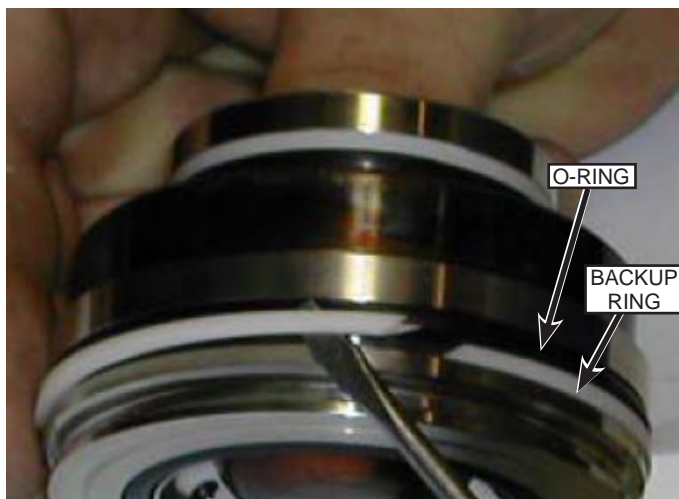

Fig. 90: Backup Ring and O-Ring Removal
2. Locate the slits in the two white backup rings and carefully remove the rings. Remove the companion O-rings, as well. Refer to Fig. 90. Discard the O-rings and backup rings.